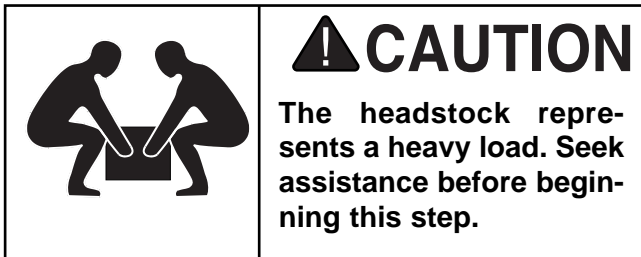

Figure 8. Lock Handles and gib location.
1. Make sure the locking gib is in the recessed pocket on the inside edge of the headstock opening. See **Figure 8**.
3. Screw two lock handles into each side of the headstock bracket. See **Figure 8**.